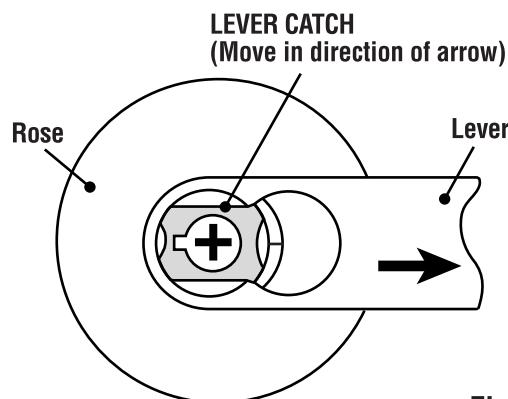

Figure 7
- B. Using flat blade screwdriver, pull back lever catch while pulling lever off. See Figure 7.